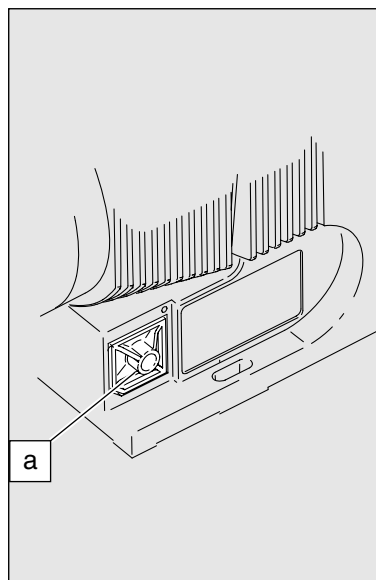

Fig. 12
- ▶ Place the gamma/ L on a firm surface with the relay opening press-out section at the top (see fig. 12:a)